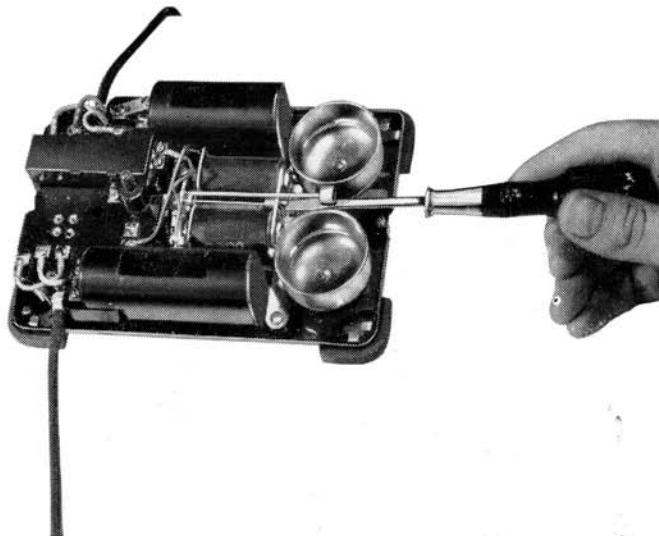

Figure 23 — Adjusting Tension on Biased Ringers
Step 3—Adjust the tension on the biased ringers with a minimum amount of tension to prevent tapping (see figure 23).
Step 2—Reverse the ringer leads R1 and R2 on AC ringing systems (see figure 24). If this does not clear the trouble connect the ringer for the least objectionable tapping and increase the bias tension only to the point where bell tapping ceases (see figure 23).